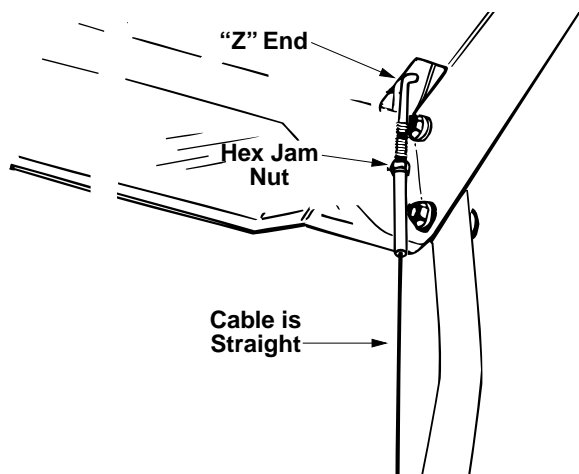

Figure 13
3. Thread the cable onto the threaded portion of the "Z" end until there is no slack in the cable, but the cable is NOT tight. Do not overtighten cable. See Figure 13.
- If necessary, loosen the hex jam nut and thread the cable in (for less slack) or out (for more slack) as necessary. Refer to Figure 13. Recheck the adjustment. Tighten the jam nut against the cable when correct adjustment is reached.